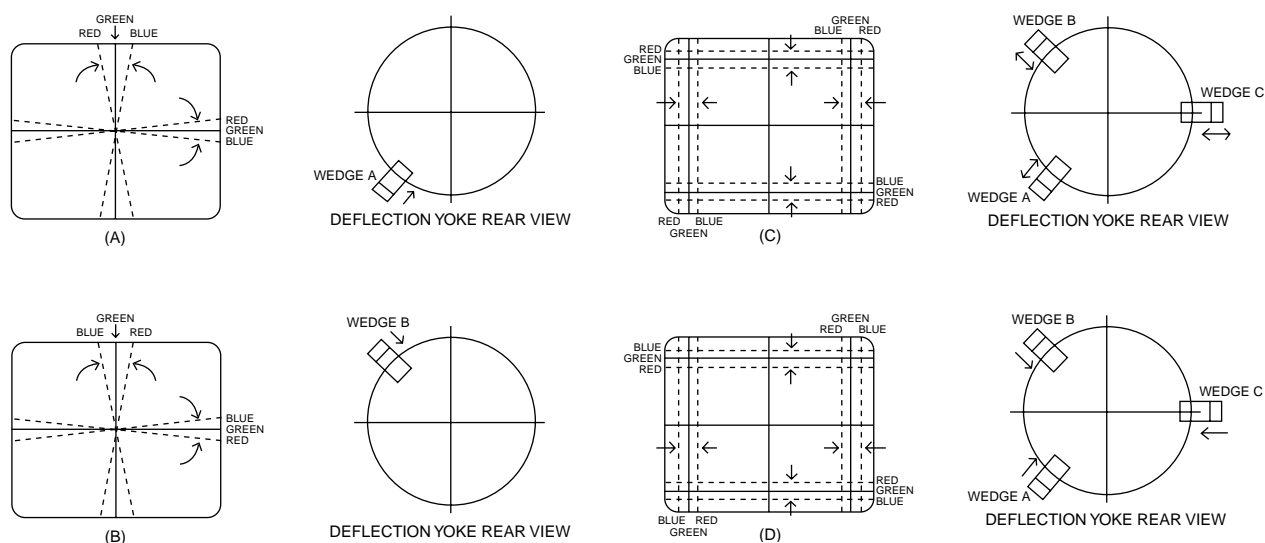

Fig. 5
## DYNAMIC CONVERGENCE ADJUSTMENT ( Refer to Figure 5)
3. For the misconvergence shown in Figure 5 ( A ), tilt the deflection yoke down and insert wedge A between deflection yoke and CRT.
4. For the misconvergence shown in Figure 5 ( B ), tilt the deflection yoke up and insert wedge B between deflection yoke and CRT.
5. For the misconvergence shown in Figure 5 ( C ), tilt left side of the deflection yoke and slightly insert wedge C between deflection yoke and CRT. Then, deeply insert wedges A and B between deflection yoke and CRT.
6. For the misconvergence shown in Figure 5 ( D ), tilt right side of the deflection yoke and deeply insert wedge C between deflection yoke and CRT. Then, slightly insert and/or extract wedges A and B between deflection yoke and CRT.